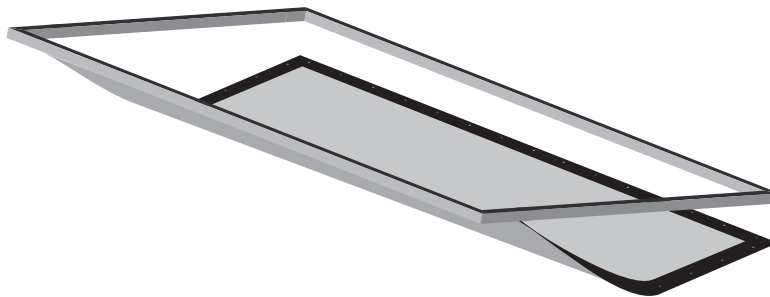

Figure 14: Attaching Remaining Snaps
6. Lift the frame to a vertical position to finish attaching the sides and bottom row of the snaps. Refer to Figure 14.